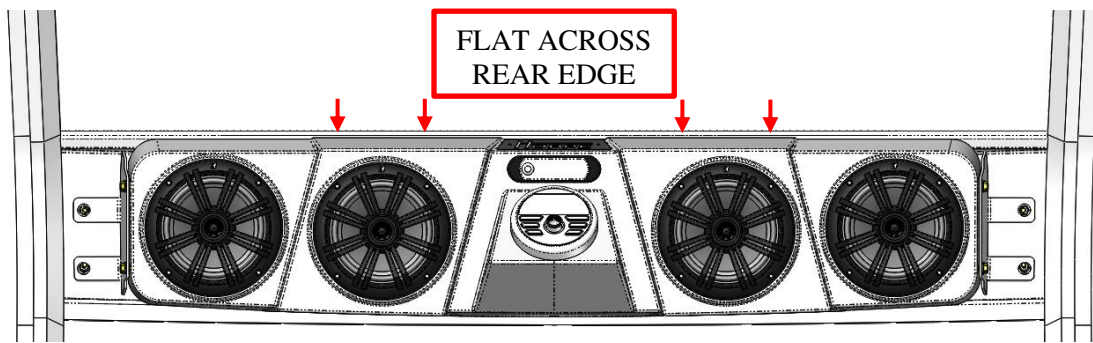

Figure 9: Audio Mini rear edge flat across rear edge of visor.
- Tighten the 4 visor bolts so that the rear edge of the *Audio Mini* is flat across the rear edge of the visor. See Figure 9.